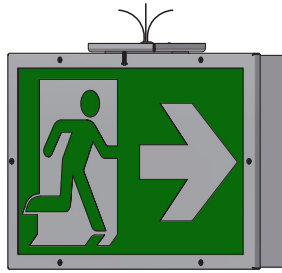

Figure 2
2. Mount the RM SIGN securely in place using the wall mounting diagram. (figure 2)